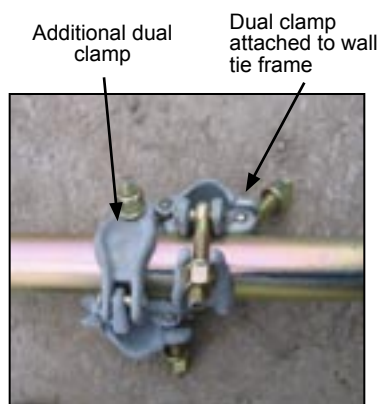

Fig. 105
- 7- For added strength, attach additional dual clamps on the wallmount in front and in the back of the wall tie frame dual clamp installed previously (fig. 105). Make sure all bolts are tightened. Refer to the *Installation of dual clamps* procedure, on p. 50, for more information.